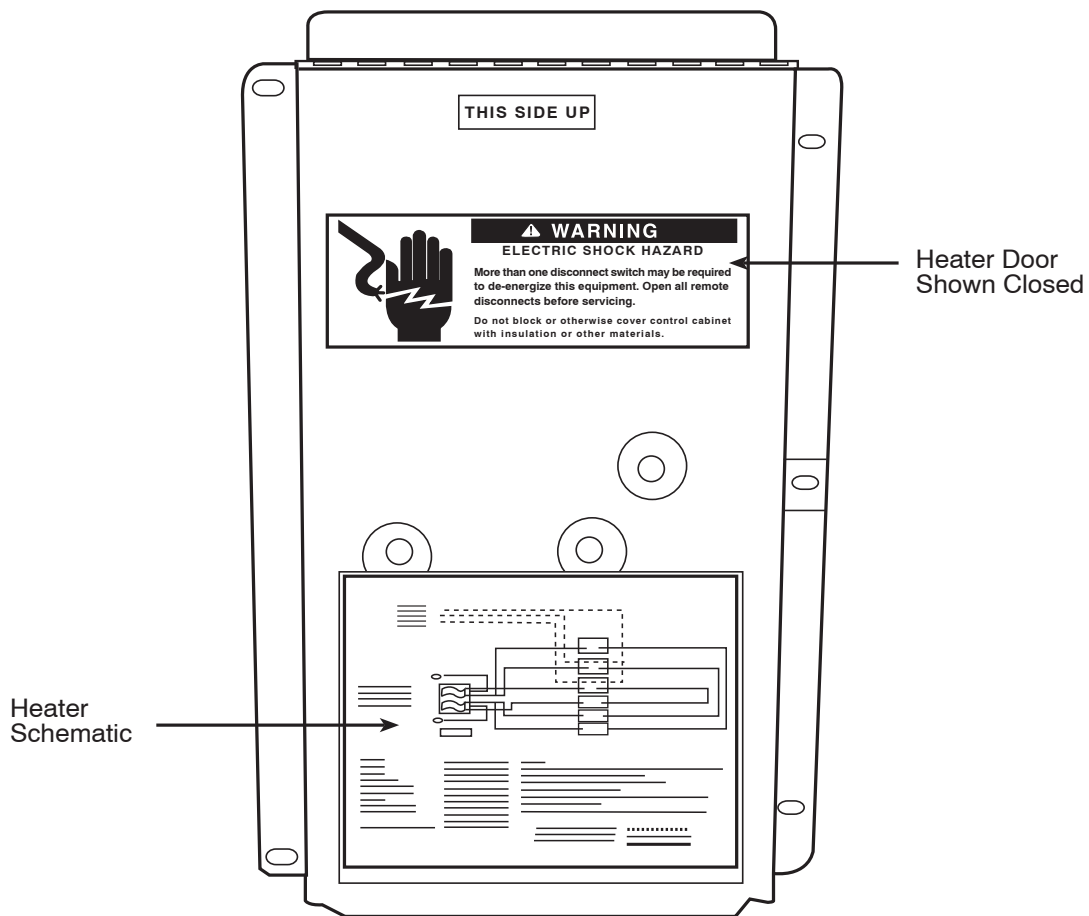
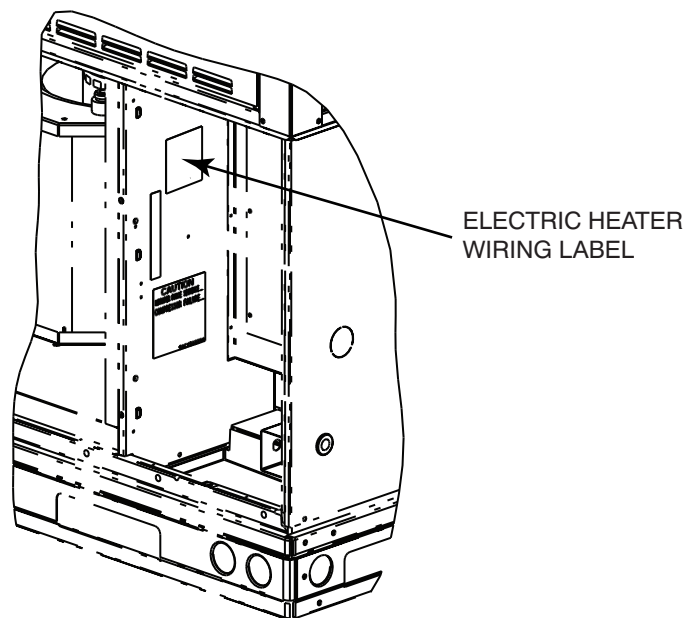

Fig. 11 - Schematic Location for Fused Heaters
Fig. 12 - Schematic Location for Non-Fused Heater
8. Attach provided heater wiring labels at appropriate locations (see Fig. 11 or Fig. 12).